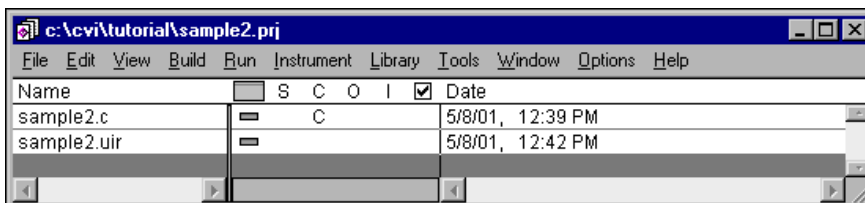

Figure 2-1. `sample1.prj` in the Project Window
*.prj	Project window. Refer to Figure 2-1.
After you load `sample1.prj`, the Project window appears as shown in Figure 2-1.